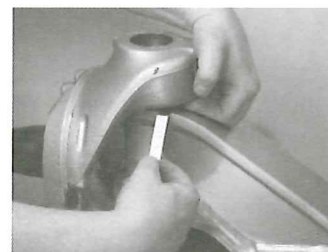

Figure 21.
8. Insert feeler gauges between the upper kingpin connection and the top of the axle. Check the clearance between the upper kingpin connection and the top of the axle. (See Figure 21)